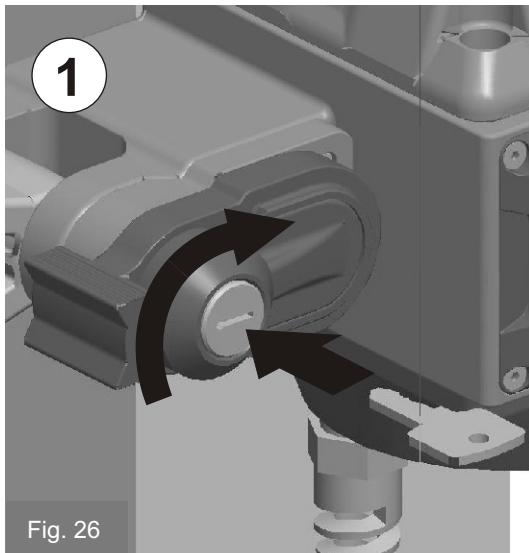

Fig. 26
1. Insert the key in lock and turn it 90° to the right as on Fig. 26
- 3.2. To lock back the operator take back the lever to the position as (Fig. 26), turn the key pushing the cylinder back in and move the gate leaf until you ear the operator gears to hook-up.